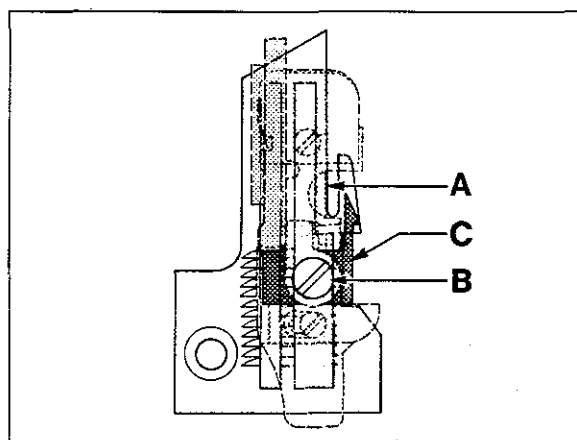
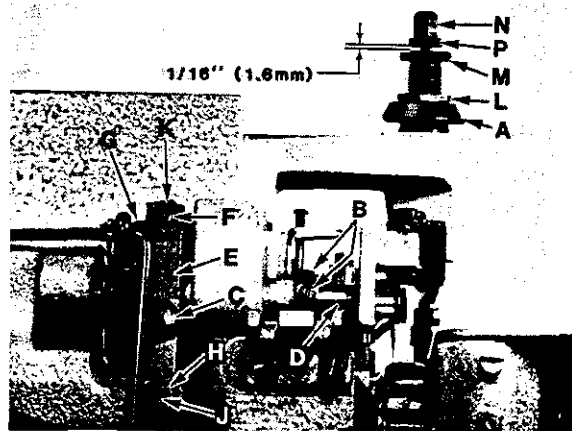

Fig. 18
Fig. 19
Right edge of presser foot must align with left edge of needle slot in throat plate as shown Ref. Point A, Fig. 18. Presser foot must lie flat on throat plate. The adjustable stitch tongue on presser foot must center over stitch tongue of throat plate as shown in Fig. 18. If adjustment is required, lock presser foot in sewing position by release bushing (A, Fig. 19), loosen collar screws (B) and clamp screw (C), then adjust lifter lever shaft (D) left to right until the right edge of presser foot aligns with the left edge of needle slot in throat plate as shown in Ref. Point A, Fig. 18. Tighten collar screws (B, Fig. 19) and while holding lifter lever arm (E) so its stop screw (F) is against intermediate lever (G), tighten clamp screw (C). Completely unlock release bushing (A, Fig. 19). Plunger should clear presser arm without binding. Loosen screw (B, Fig. 18) and adjust stitch tongue (C) left to right, to center over stitch tongue of throat plate as shown in Fig. 18, then tighten screw (B). On all Styles except 39500 XQJ, XRB, XRC, and CXQJ; a pivot type presser foot shank allows precise adjustment of presser foot, forward - rearward and flatness on throat plate for optimum feeding.
Lift presser foot to highest position and rotate handwheel in operating direction. Upper looper/spreader must not contact presser foot at any point of travel. If adjustment is required, loosen locknut (H, Fig. 19) and adjust stop screw (J) so presser foot will not interfere with upper looper/spreader, then tighten locknut (H). Loosen locknut (K) and set stop screw (F) on upper end of lifter lever arm so there is approximately 1/16 inch (1.6mm) free motion in lifter lever before presser foot starts to rise, then tighten locknut (K).
Sufficient pressure must be maintained to feed work uniformly. Excessive spring pressure will cause feeds and presser foot to wear prematurely when chaining. If adjustment is required, rotate handwheel in operating direction until both main and differential feeds are positioned below throat plate. Loosen locknut (L, Fig. 19) and turn adjusting screw (M) clockwise for more pressure or counterclockwise for less pressure, then tighten locknut (L).
**NOTE:** Adjusting screw (M) will effect the function of pressure release bushing (A). Plunger must clear presser arm when pressure release bushing is unlocked. When release bushing is locked in position, presser foot must be held firmly against throat plate. If these conditions do not exist the following adjustment must be made.
Lock presser foot in position with pressure release bushing (A); loosen capnut (N) and adjust nut (P) up or down so its under surface is 1/16 inch (1.6mm) above screw (M) as shown in Fig. 19. Hold nut (P) in position and tighten capnut (N).